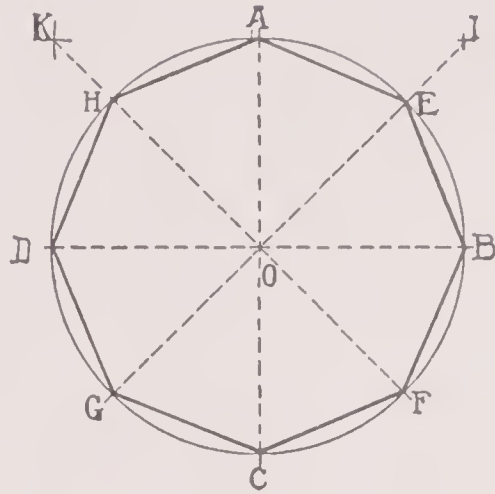

Fig. 21
21. To inscribe a regular octagon in a given circle (Fig. 21):